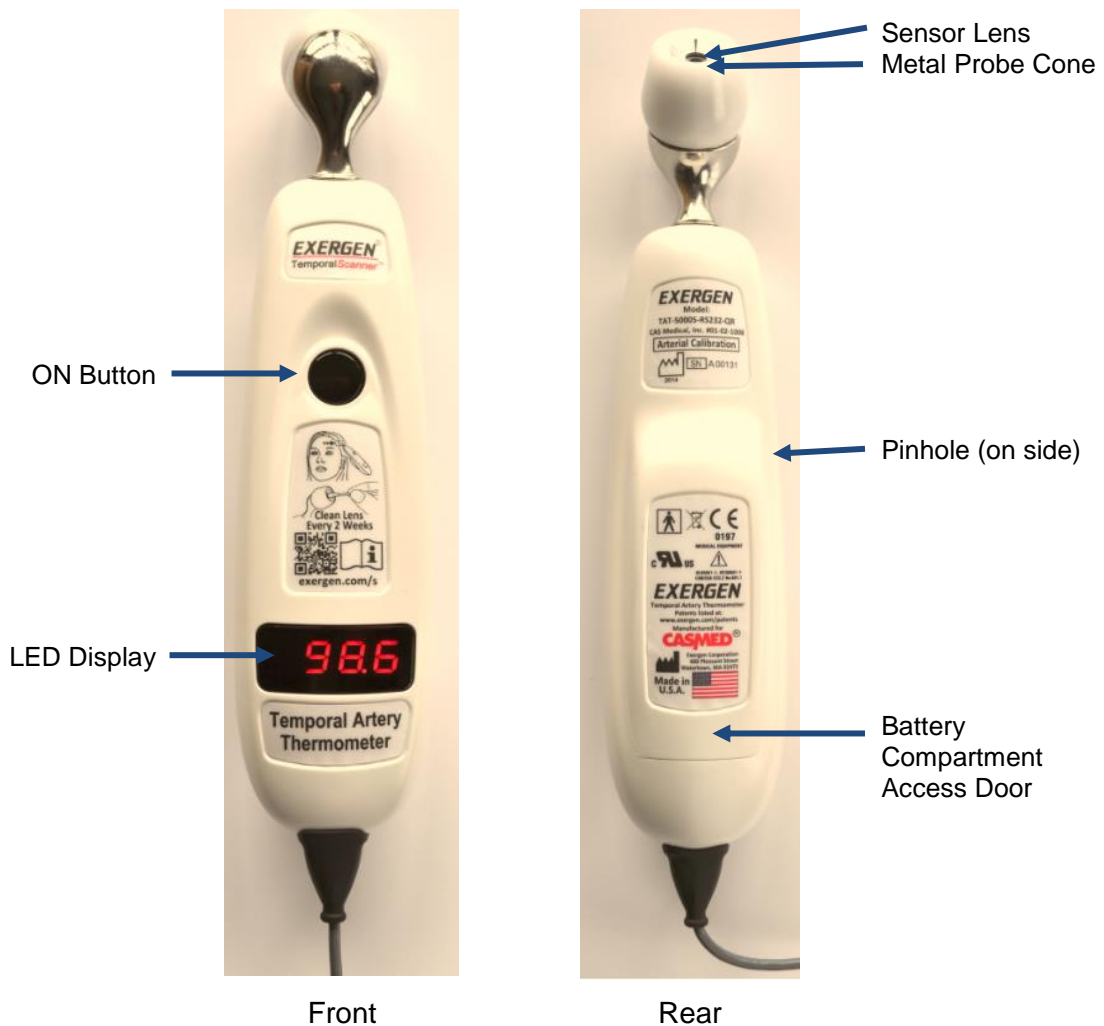

Figure 13: Views of Exergen Temp scanner
- **To Scan:** Depress the ON button (Refer to Figure 13). The instrument will continually scan for the highest temperature (peak) as long as the ON button is depressed.
- **To Retain or Lock Reading:** The reading will remain on the LED display for 30 seconds after button is released (Refer to Figure 13). If measuring room temperature, the temperature will remain on the LED display for only 5 seconds.
- **To Restart:** Depress the ON button to restart (Refer to Figure 13). It is not necessary to wait until the LED display is clear, the thermometer will immediately begin a new scan each time the ON button is depressed.